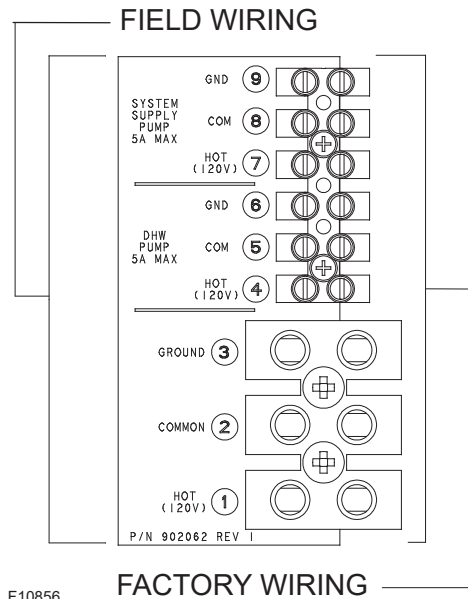
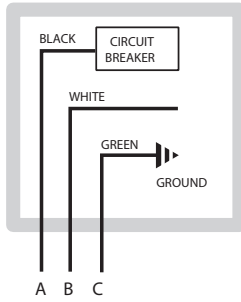
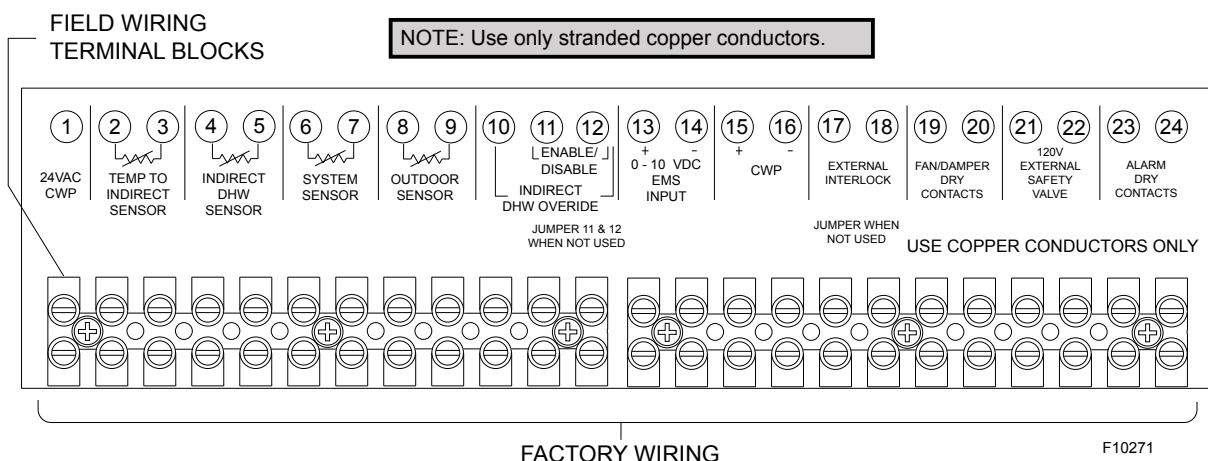

Figure 20. Wiring Electrical Connections
Figure 21. Wiring Connections
Figure 24. Low Voltage Field Wiring
All high voltage wiring connections to the MVB heater are made inside the rear wiring box as shown in **Figure 20**. Power for indirect DHW pump not exceeding 5 amps should be taken from terminals 4 (Hot), 5 (Com), and 6 (Gnd). Power for system pump not exceeding 5 amps should be taken from terminals 7 (Hot), 8 (Com), and 9 (Gnd). Power for boiler pumps must be routed through the pump contactor; 30A supply is required. Power for pumps must be a separate circuit wired through the pump contactor. Power to the MVB heater should be connected to terminals 1, 2, and 3 as noted in **Figure 20**. All low voltage wiring, including sensors, interlocks, enable/disable, and various options are wired into terminals 1–24 on the front wiring panel as noted in **Figure 24**.
**⚠ WARNING:** Using a multi-meter, check the following voltages at the circuit breaker panel prior to connecting any equipment. Make sure proper polarity is followed and house ground is proven. (See Figure 21)
Refer to **Figure 20** and **Figure 21**.
Connect the Enable/Disable wiring to the field wiring terminal (shown in **Figure 24**). Alternately, any dry contact closure (including a remote thermostat) across these terminals will enable the MVB unit to run. Caution should be used to ensure neither of the terminals becomes connected to ground.
2. If using an Outdoor Sensor (option B-32), connect the sensor wires to the terminals marked OUTDOOR SENSOR (see **Figure 24**). Caution should be used to ensure neither of these terminals becomes connected to ground.
2. To enable this remote control function, set dip switch 5 to the UP position on the PIM. Dip switch 5 Toggles between an EMS (UP) signal or a demand signal from the VERSA (DOWN). Dip switch 2 on the PIM toggles between a Direct Drive (UP) input and a Target Temperature (DOWN) setpoint.
4. Connect an Energy Management system or other auxiliary control signal to the terminals marked 0-10V (+ /-) on the field wiring terminals (see **Figure 24**). Caution should be used to ensure that the +0-10V connection does not create a short to ground.
3. Connect the system supply sensor to terminals 6 and 7 on the field wiring strip located on the Master PIM (See **Figure 24**).
4. Connect the Outdoor sensor (if used) to terminals 8 and 9 on the field wiring strip located on the Master boiler (See **Figure 24**).
5. Connect the Enable/Disable wiring to terminals 11 and 12 on the field wiring strip located on the Master boiler (See **Figure 24**). This connection must be provided through dry contacts closure.
An alarm annunciator or light may be connected to the alarm contacts on the field wiring terminals. The Alarm Contacts are 3A rated dry contacts on a normally-open relay that close during fault or lockout conditions, and the maximum voltage across the contacts is 30 VAC or 30 VDC. See the Field Wiring as shown in **Figure 24**.